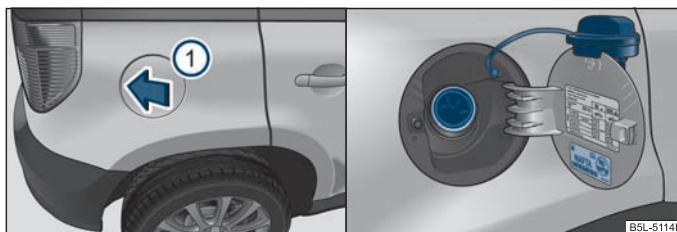

Fig. 163 Right rear side of the vehicle: Open fuel filler flap/fuel filler flap with cap unscrewed
Your vehicle can only be operated with **unleaded petrol**, which complies with the standard **EN 228** (In Germany: standard **DIN 51626 - 1** or **E10** for unleaded fuel with octane rating **95 RON** and **91 RON** or **DIN 51626 - 2** or **E5** for unleaded fuel with octane rating **98**). On the inside of the fuel filler flap, you will find the information regarding the RON required by your engine ⇒ page 192, fig. 163 - right.
- Press in the middle of the left area of the fuel filler flap in direction of arrow ① ⇒ fig. 163.
- Unscrew the fuel filler cap anti-clockwise and place the fuel filler cap from above on the fuel filler flap ⇒ fig. 163 - right.